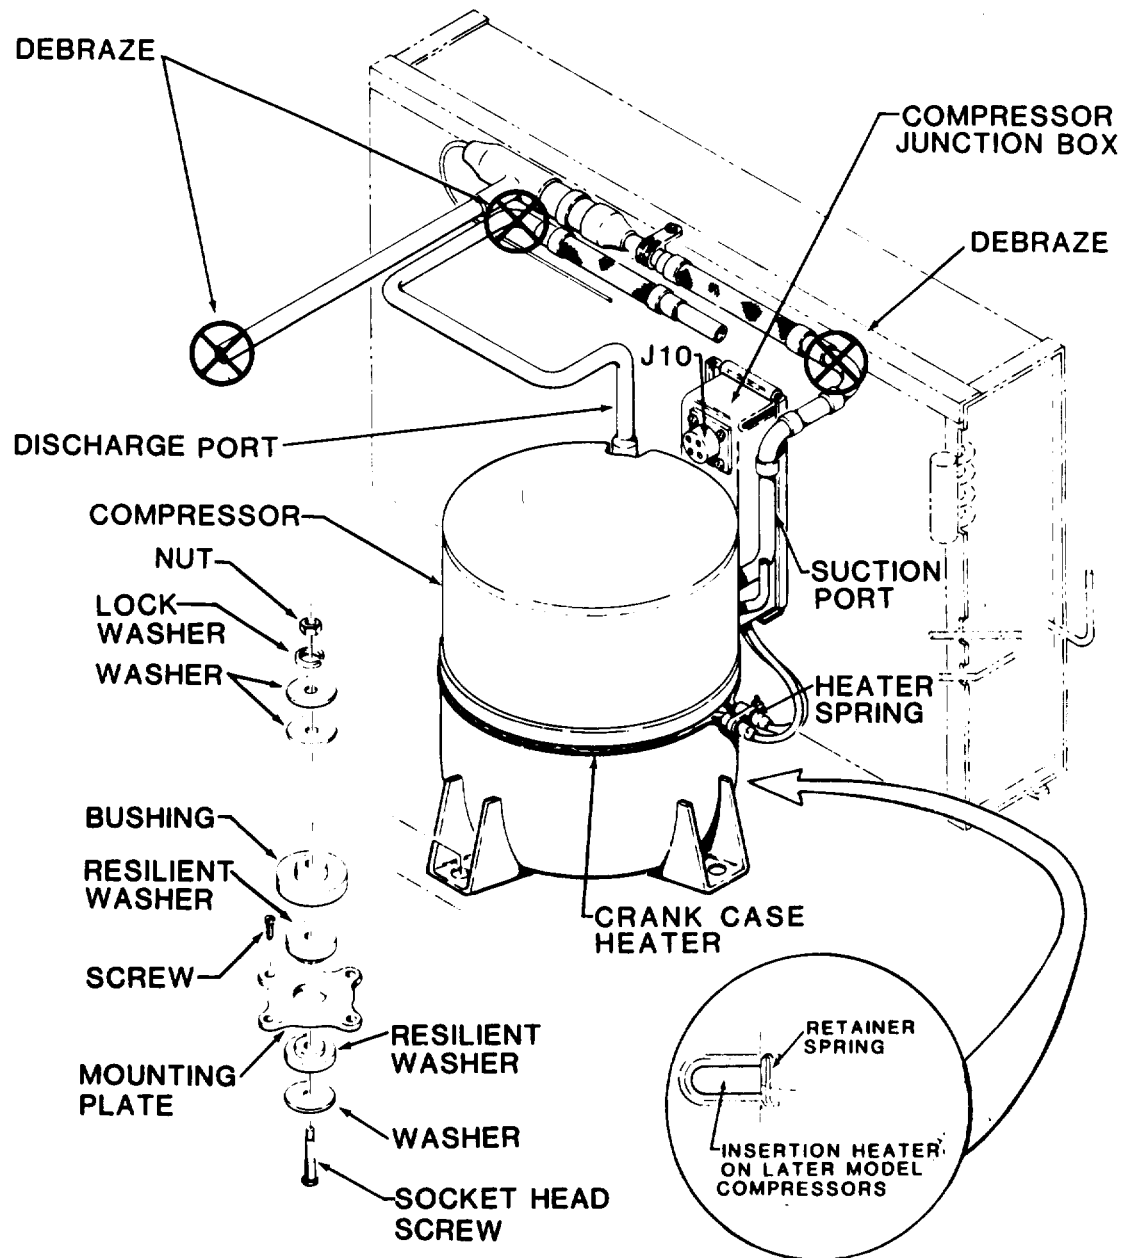

Figure 5-21. Compressor
The compressor and motor assembly are hermetically sealed in a metal canister. The crankcase heater element, heater thermostat, related parts, and the electrical connector are attached to the canister externally. The compressor is located in the rear (compressor/condenser) compartment. (See fig. 5-21.)
(4) Compressor. (See fig. 5-21.) Two people are required for compressor removal.